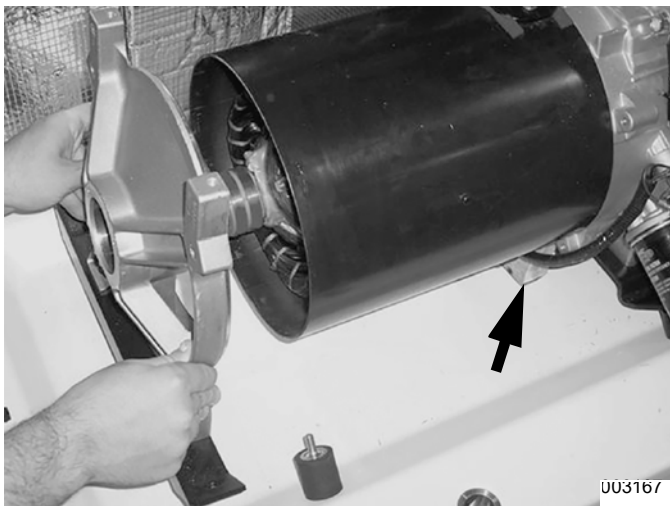

Figure 4-57.
25. See Figure 4-57. Lift the back end of the alternator up and place a 2"x 4" piece of wood under the engine*.